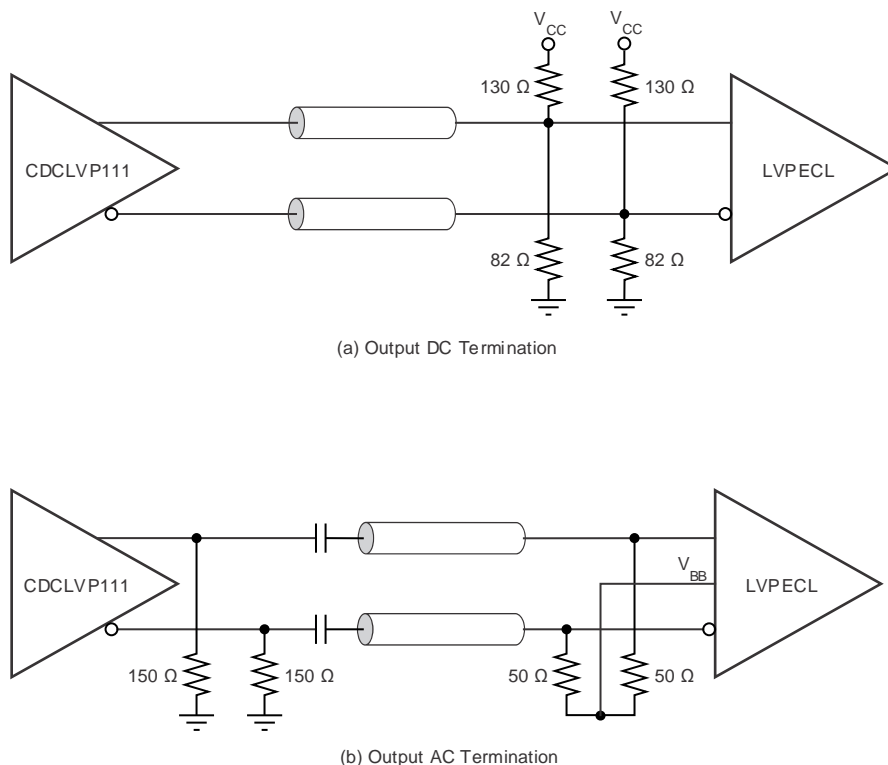

Figure 9. LVPECL Output DC and AC Termination for  $V_{CC} = 3.3\text{ V}$
The CDCLVP111 is an open emitter for LVPECL outputs. Therefore, proper biasing and termination are required to ensure correct operation of the device and to minimize signal integrity. The proper termination for LVPECL outputs is a  $50\ \Omega$  to  $(V_{CC} - 2)$  V, but this DC voltage is not readily available on PCB. Therefore, a Thevenin equivalent circuit is worked out for the LVPECL termination in both direct-coupled (DC) and AC-coupled configurations. These configurations are shown in Figure 8 (a and b) for  $V_{CC} = 2.5$  V and Figure 9 (a and b) for  $V_{CC} = 3.3$  V, respectively. TI recommends to place all resistive components close to either the driver end or the receiver end. If the supply voltage for the driver and receiver is different, AC coupling is required.